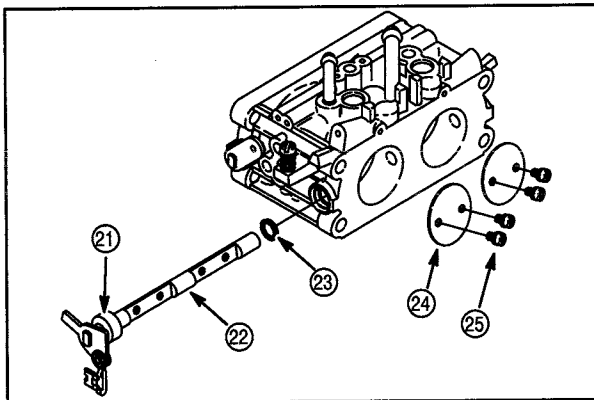

**Fig. 65**
9. Remove idle mixture screws (19) and springs (20), **Fig. 65**.
**NOTE:** If idle mixture screws are equipped with adjustment limiter caps, remove the caps (18) **BEFORE** removing idle mixture screws, **inset, Fig. 65.**